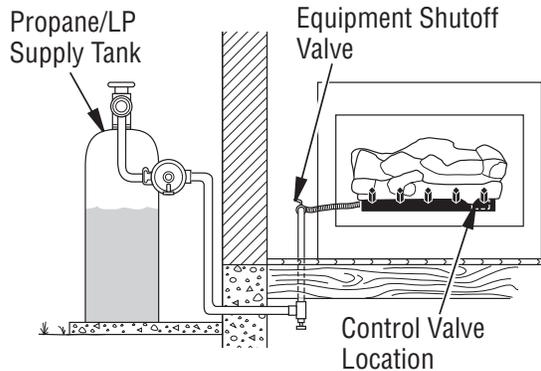
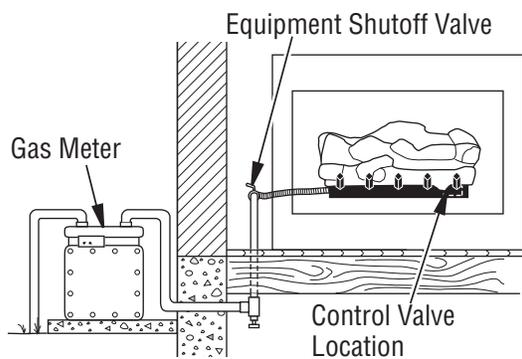

Figure 15 - Checking Gas Joints (Propane/LP Only)
Figure 16 - Checking Gas Joints (Natural Gas Only)
3. Check all joints from gas meter to equipment shutoff valve for natural gas or propane/LP supply to equipment shutoff valve for propane/LP (*see Figure 15 or Figure 16, Pages 14-15*). Apply noncorrosive leak detection fluid to all joints. Bubbles forming show a leak.
4. Check all joints from gas meter to equipment shutoff valve for natural gas or propane/LP supply to equipment shutoff valve for propane/LP (see **Figure 15, Page 14** or **Figure 16, Page 15**). Apply noncorrosive leak detection fluid to all joints. Bubbles forming show a leak.